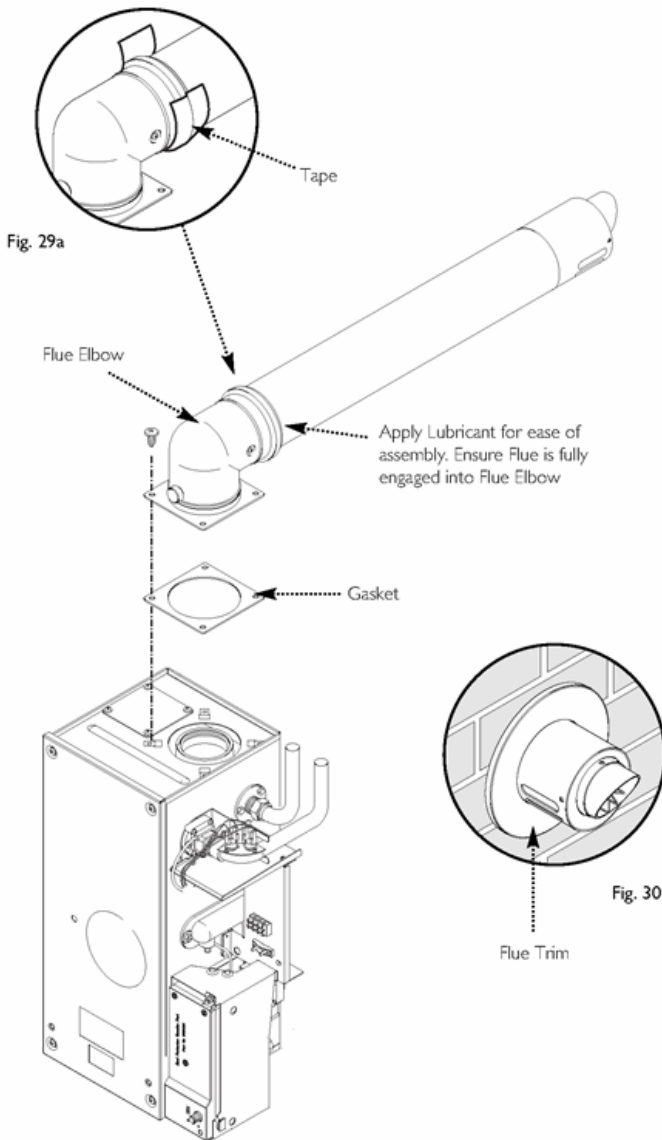

Fig. 29, Fig. 30 & Fig. 29a
7. Engage the flue into the flue elbow using soap solution to ease the engagement ensuring the flue is assembled as shown (Fig. 29). Take the tape supplied in the kit and wrap around the joint between the flue and the elbow (Fig. 29a).